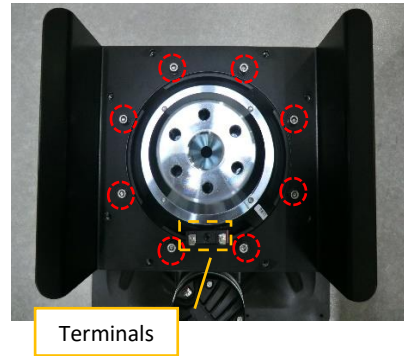

Fig.5-2-1-J
- (6) Connect the cables to the two terminals. (Fig.5-2-1-K)